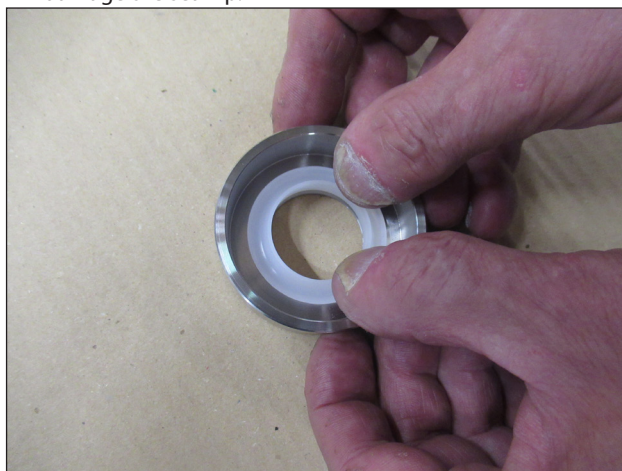

Fig. 28
- A) Assemble the wiper in the housing on the support (Fig. 28), using a buffer as necessary and taking care not to damage the seal lip.